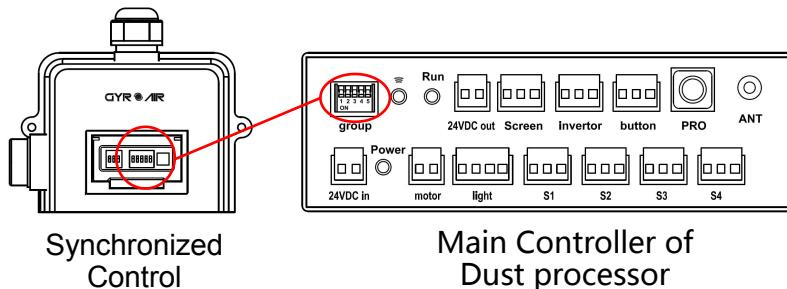

Fig 7
- 2) Adjust the the dial switch values on the synchronized control the same to the main controller, as shown in Fig 7.